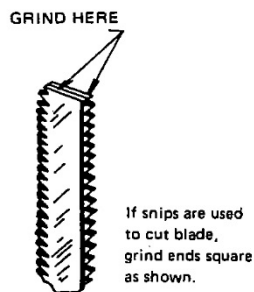

Figure 11
**IMPORTANT:** If a blade has been cut by using snips, the ends of the blade must be ground square before welding them together, as shown in Figure 11.